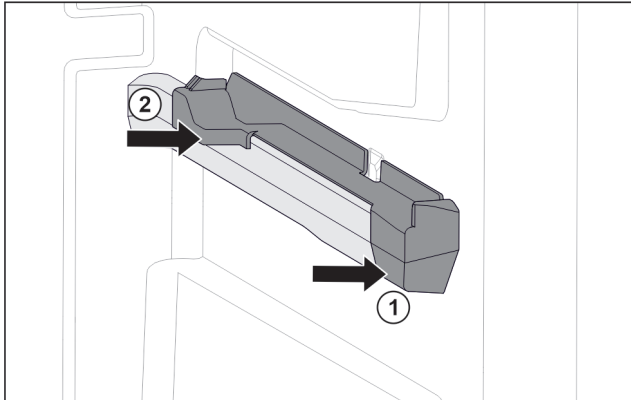

Fig. 63 Attachment on the right moulded rib
- ▶ Position attachment on moulded rib at the front. Fig. 63 (1)
- ▶ Press on attachment at the back. Fig. 63 (2)